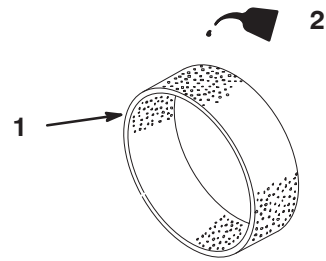

Figure 29
4. Put one or two ounces of oil on the element (Fig. 29).